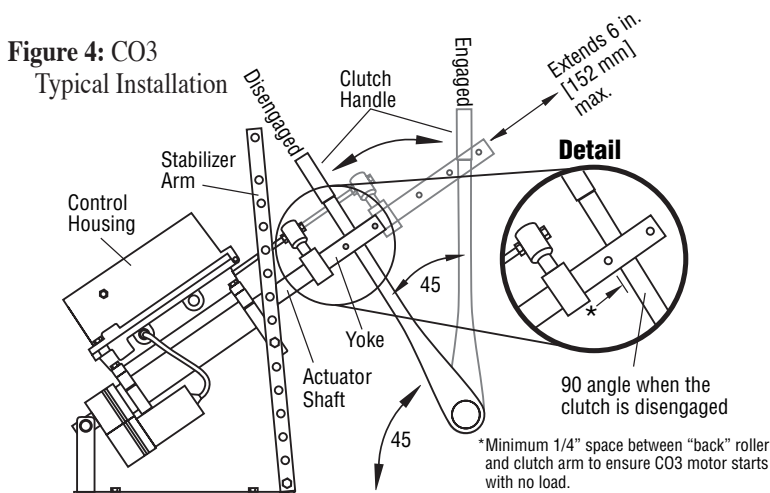

Figure 4: CO3
Refer to *Figure 4* on back page.
2. Remove the clutch lever and reposition it approximately 45 degrees from vertical, towards the rear of the clutch (**Figure 4**).
4. Place the CO3 in direct line with the clutch lever until the inner roller touches the clutch lever at an approximate 90 degree angle (See Detail in **Figure 4**). **NOTE: Reposition clutch lever so it does not bind between rollers when actuator is fully extended and fully retracted.**
5. Bolt the CO3 to the stabilizer arm to hold the angle of incidence to the clutch arm (**Figure 4**).